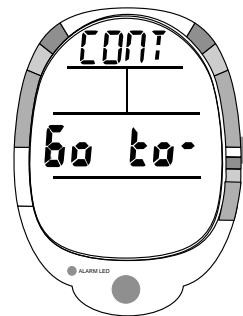

Fig. 27 - Repetitive Dive
**CONT GO TO screen (Fig. 27)**